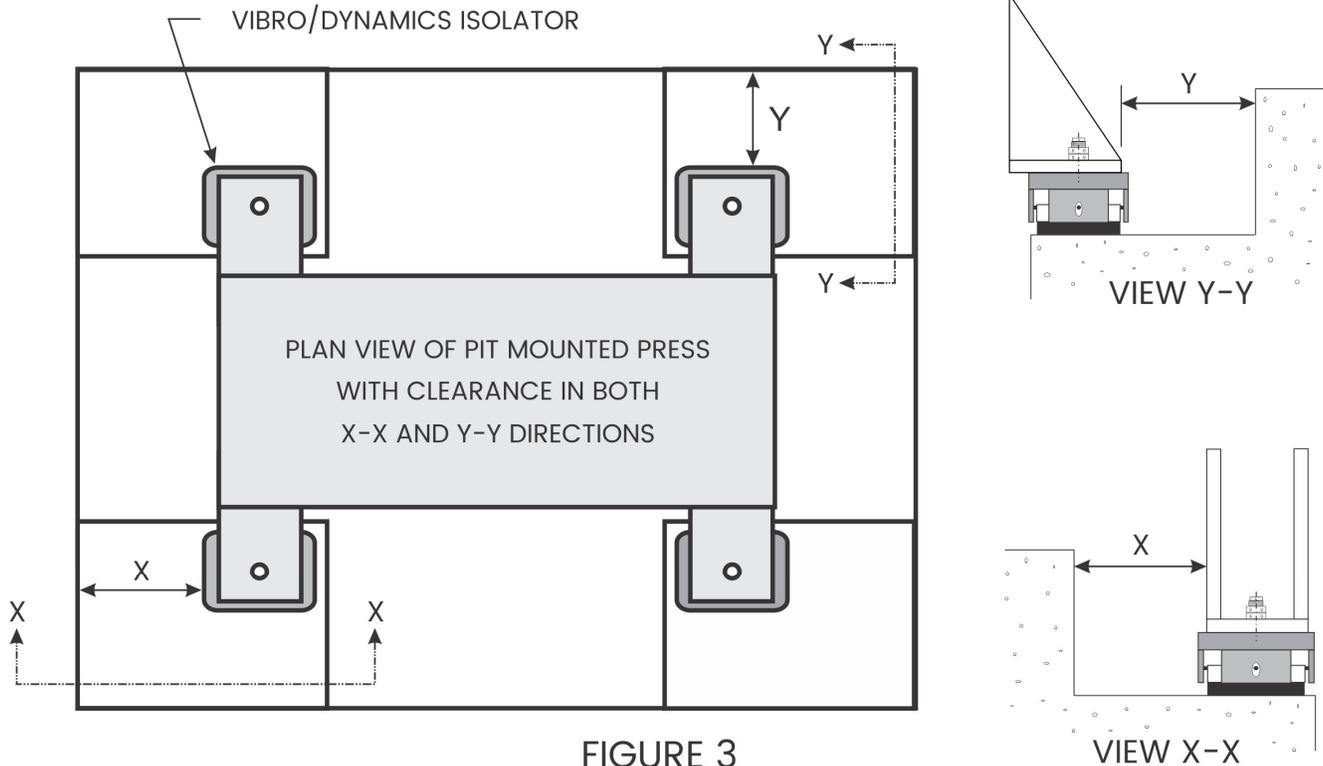

FIGURE 3
- 6) Clearance should be provided in either the X or Y direction to allow for the installation and removal of the isolators. See Figure 3 and Table 1.